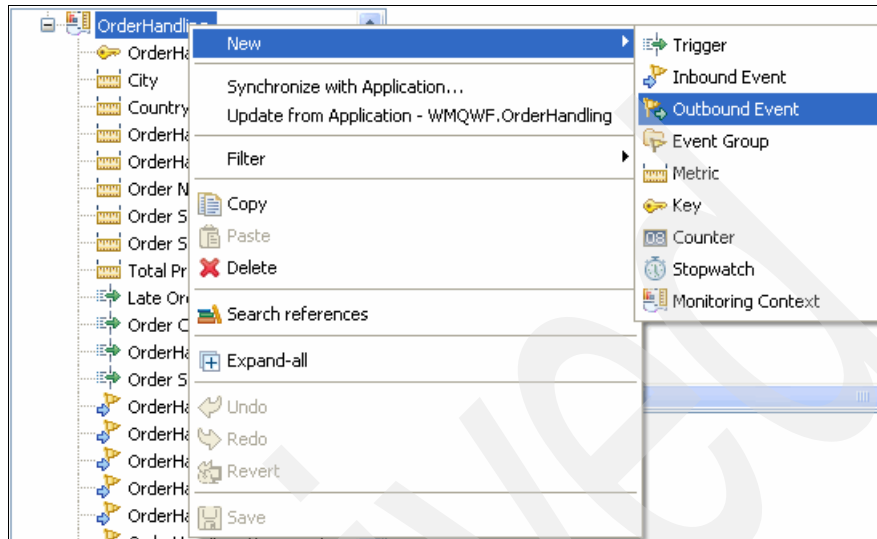

Figure 8-90 Selecting the options to add an outbound event
38. Right-click **OrderHandling** and select **New → Outbound Event** (Figure 8-90) to add an outbound event.